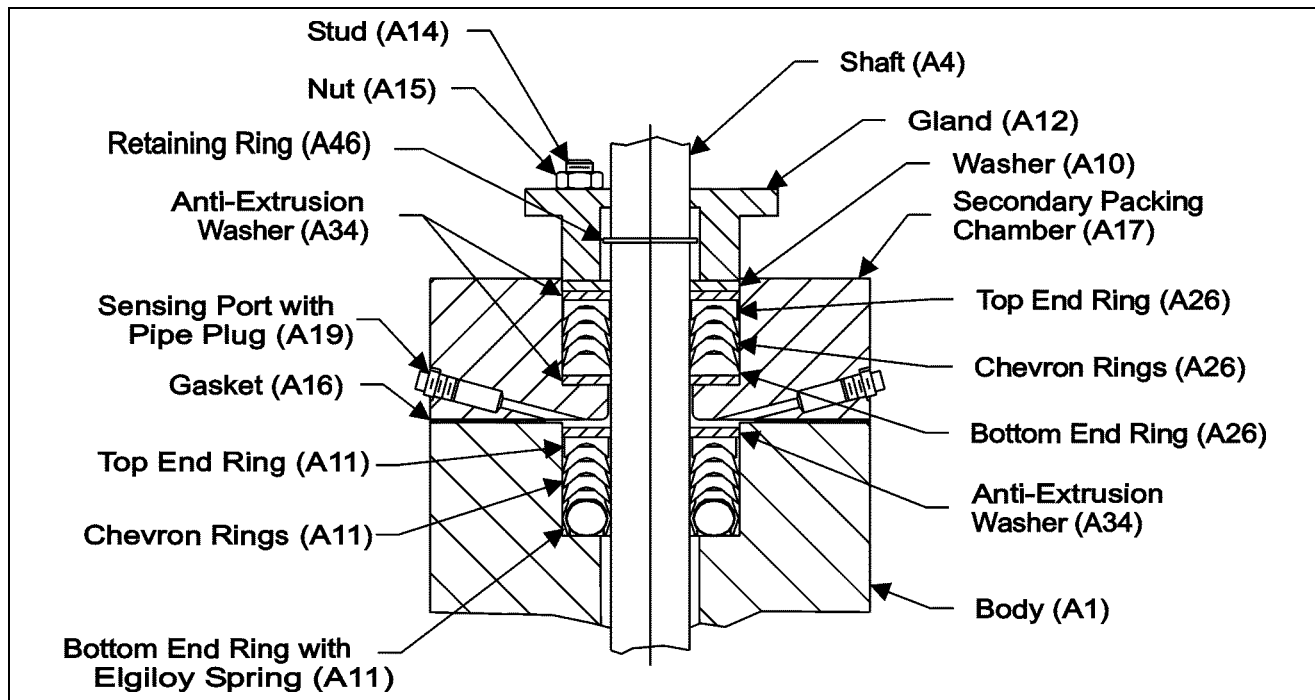

Figure 4 – Packing Option (TMD)
- a. Place the primary (lower) set of new packing (A11) and anti-extrusion washers (A34) in the body, one ring at a time, as shown in Figure 4—do not lubricate.
- b. Place the new gasket (A16), the secondary packing chamber (A17) and the new secondary packing (A26), one ring at a time, in the configuration shown in Figure 4—do not lubricate.